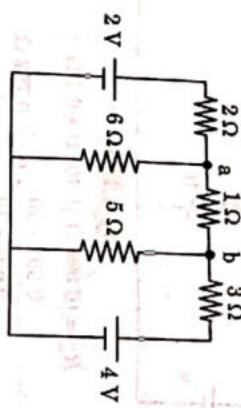

Fig. 1.20.1.
**Que 1.20.** Use superposition theorem to compute the current through  $1\Omega$  resistor of Fig. 1.20.1.